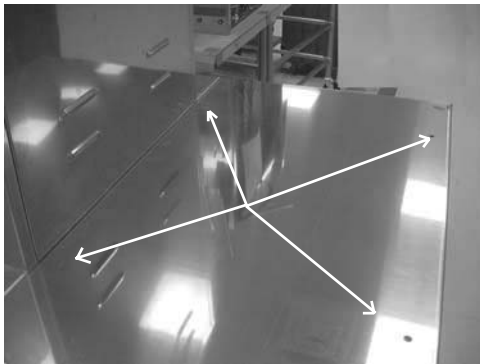

Figure 13
18. Align the holes in the table extension with the mounting holes in the bottom of the HHC-903 and mount the HHC-903 to the extension table using the hardware provided. Figure 13.